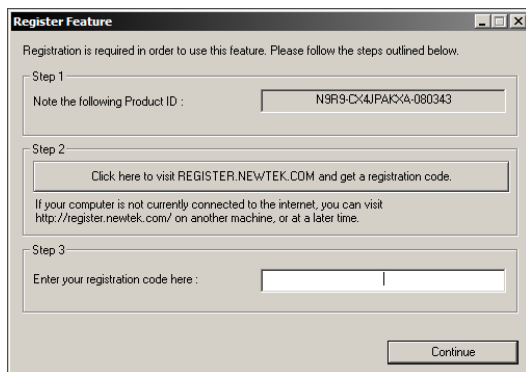

Figure 3 – Registration
4. After a few moments, the **Registration** panel pops up (Figure 3), showing the unique **Product ID** code for your installation.